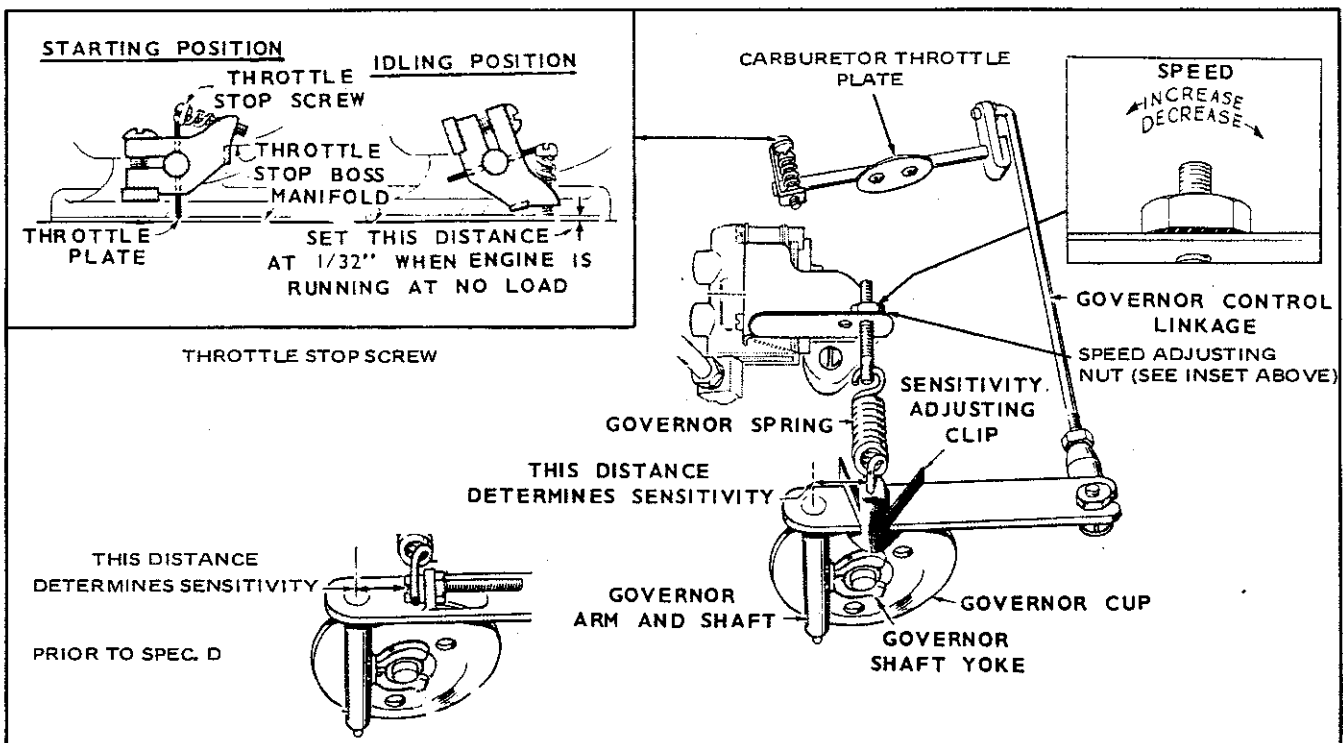

Figure 5-5. Governor and Throttle Stop Adjustment
- (1) Use a stroboscope or hand tachometer to check engine speed. Turn speed adjusting nut to increase or decrease speed until engine speed is 1800 rpm. Refer to figure 5-5.
- (2) Adjust sensitivity by sliding the sensitivity adjusting clip toward governor shaft to increase sensitivity or away from shaft to decrease. Engine speed drop from no load to full load must be within 100 rpm.
manifold when engine is operating with no load (figure 5-5).